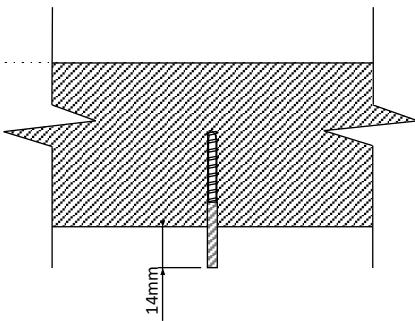

Fig 7
4. Remove the cap from the bolt (Fig 7).